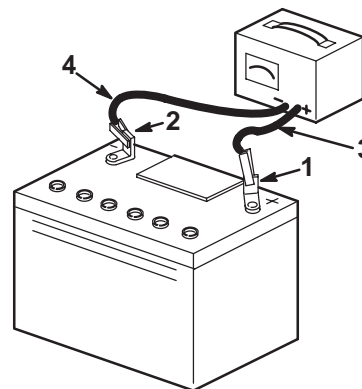

Figure 46
4. When the battery is fully charged, unplug the charger from the electrical outlet, then disconnect the charger leads from the battery posts (Fig. 46).